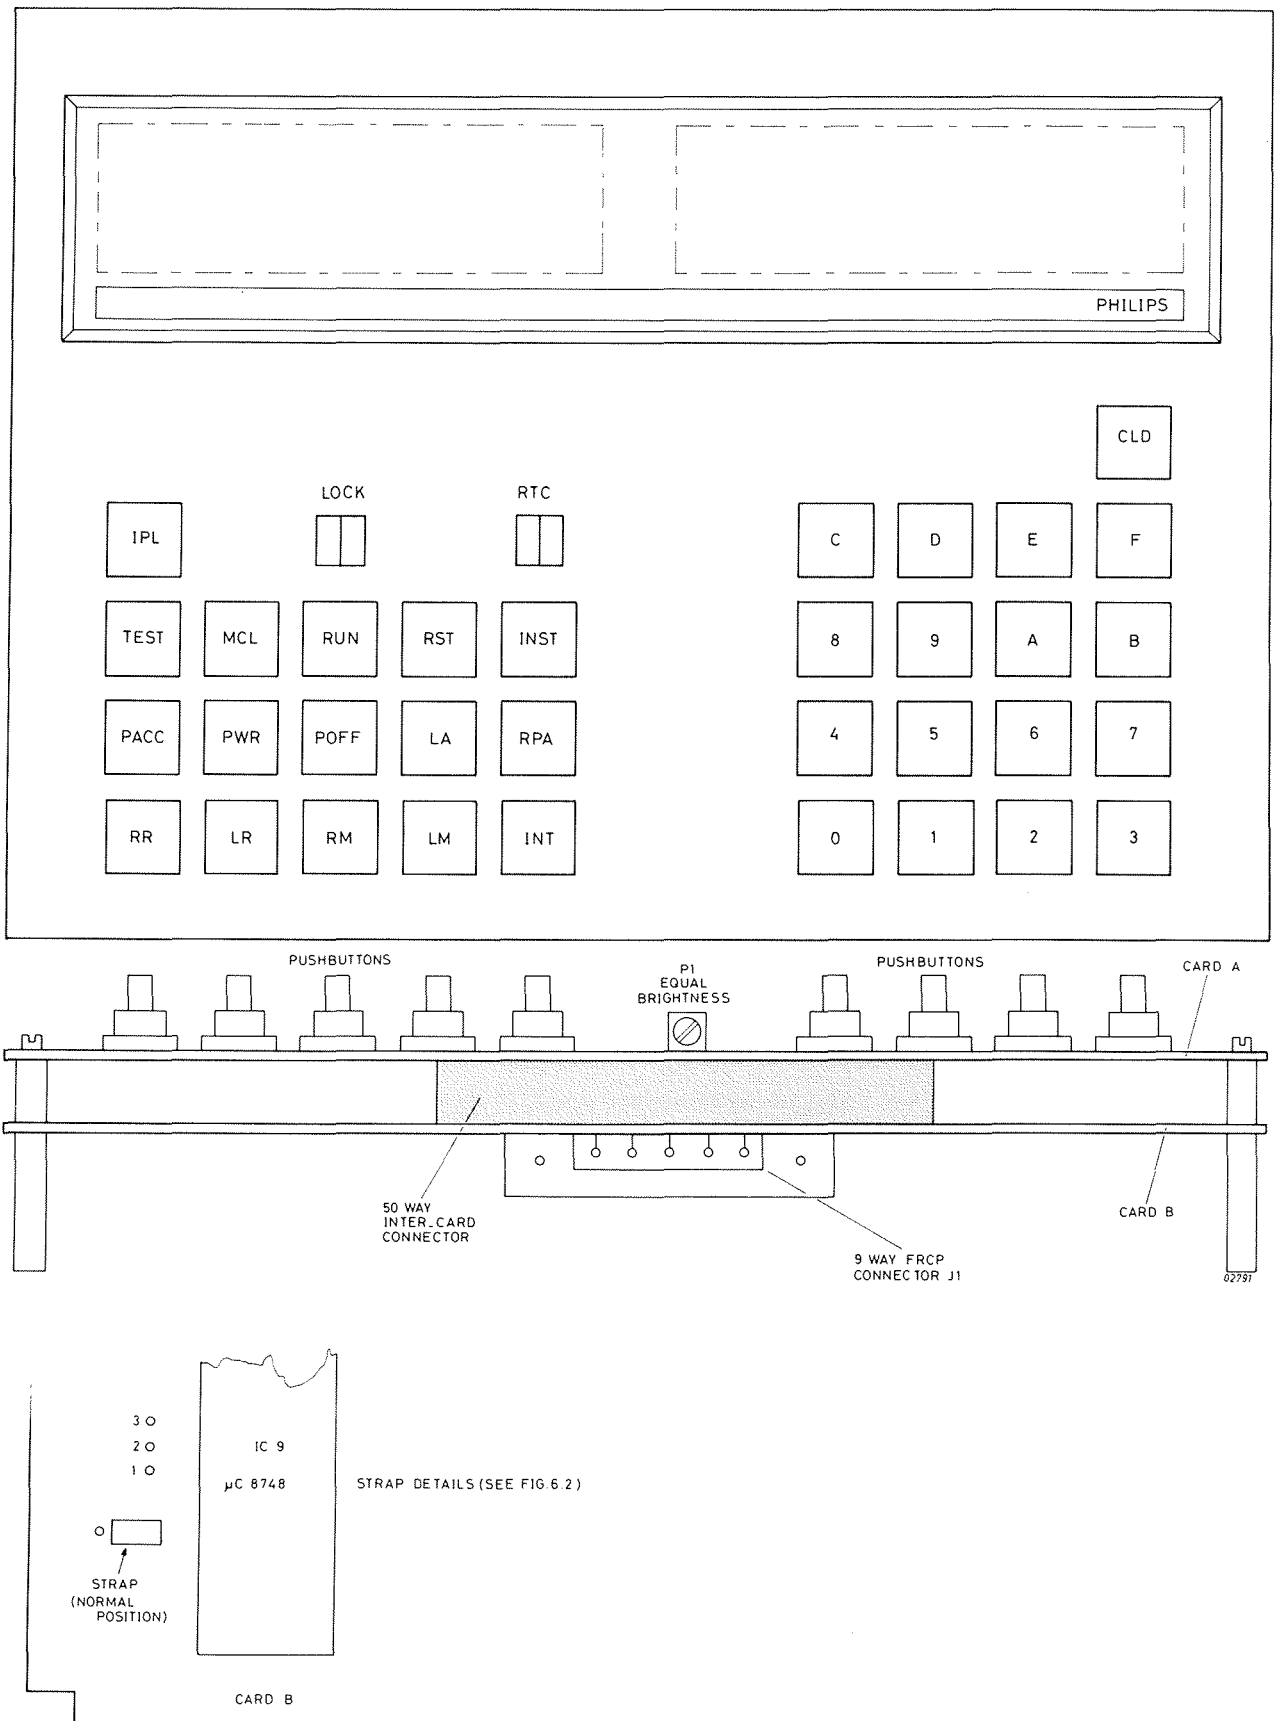

Figure 6.1 FRCP DETAILS
6.1 INTRODUCTION P843-510/FRCP (FIGURE 6.1)